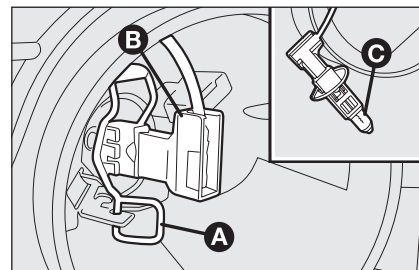

fig. 20
- ☐ release the bulb holder catch **A**-fig. 20;